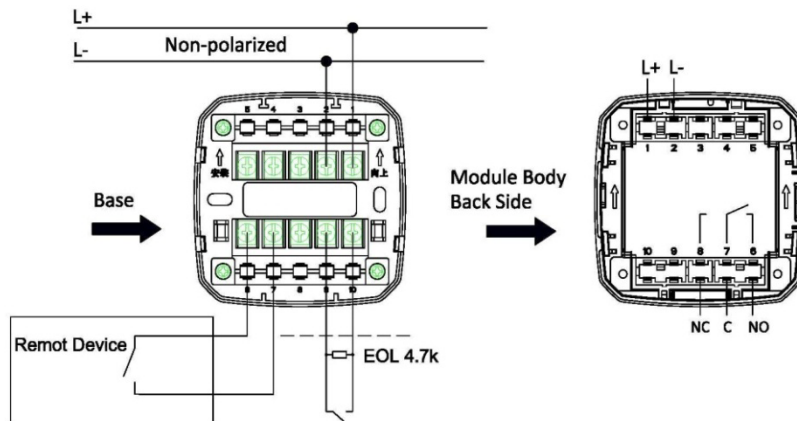

Fig.3
5. Loop wiring is shown in Fig3